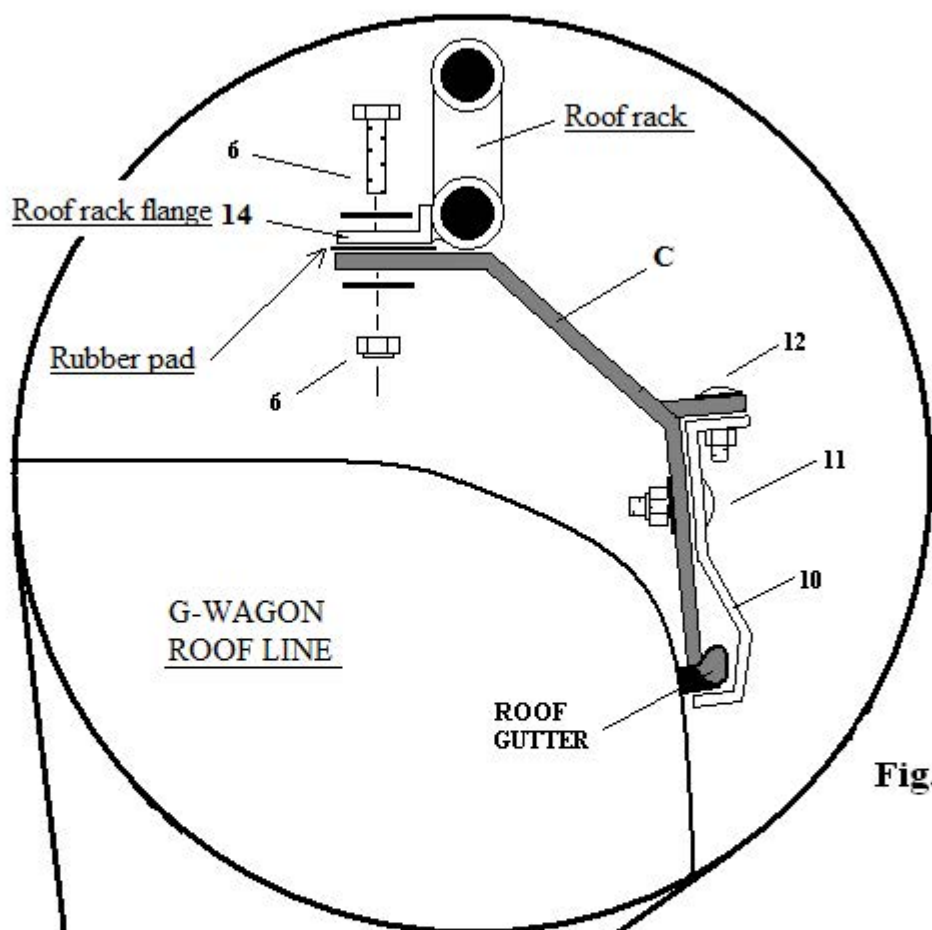

Fig. 2
Remove all eight roof rack support bracket assemblies (C) from your hardware box as shown on page 2 of your hardware list and install them onto the roof top gutter driver and passenger sides as shown on page 3 Fig. 2 and Fig. 3 and page 4 Fig. 4. Take a wooden 2 x 4 and cut off eight 1-1/2" x 3-1/2" blocks then wrap the blocks in paper towels or the like and set them under each roof rack support bracket assembly (C) as shown above. Try to set the top of each driver side support bracket (C) level with the opposite passenger side support bracket (C) as shown to make the final installation of the roof rack easier. The wrapped wooden blocks will support the weight of the roof rack until the final assembly of all the screws have been completed and secured. Refer to page 3 Fig. 2 prior to installing the roof rack make certain all clamps (10) are correctly placed under the vehicle gutter as shown. Start by snugging down carriage bolt (11) on clamp (10) to the point that clamp (10) has very little wiggle but not fully tightened. Begin to tighten the smaller carriage bolt (12) as shown in Fig. 2 which will pull clamp (10) upwards pinching clamp (10) and base of support bracket (C) to the gutter of the vehicle. Only snug down all clamps at this time to prevent them from moving during the rack installation, do not fully tighten.
Lift roof rack (A) over all support brackets (C) and line up with welded in roof rack flanges (14) as shown on page 3 Fig. 2 and page 5 Fig. 5 then slide between all roof rack support brackets (C) and roof rack flanges (14) a black rubber pad supplied in hardware Bag #3 of your hardware kit one for each support bracket (C). Also supplied in hardware Bag #3 is a packet of anti-seize paste place a small amount of paste on each screw to be installed on the roof rack as this will prevent any friction or galling of the screw threads preventing later removal. Refer to page 2 and remove from Bag #3 of your hardware kit all 16 3/8-16 x 1" stainless steel hex head screws, 32 3/8" stainless steel flat washers and 16 3/8" yellow zinc grade 8 nylock nuts and install them on to the roof rack and support brackets (C) as shown on page 3 Fig. 2 (6). Prior to fully tightening all screws (6) make certain that all support brackets (C) are pulled outward and aligned with the outer most edge of roof rack (A) as shown on page 3 Fig. 2. Cinch up clamp (10) tight up against the bottom of the roof rack gutter by further tightening screw (12) "but do not overtighten" then completely tighten clamp screws (11) on all support brackets (C) this will secure all clamps (10) from moving during use.